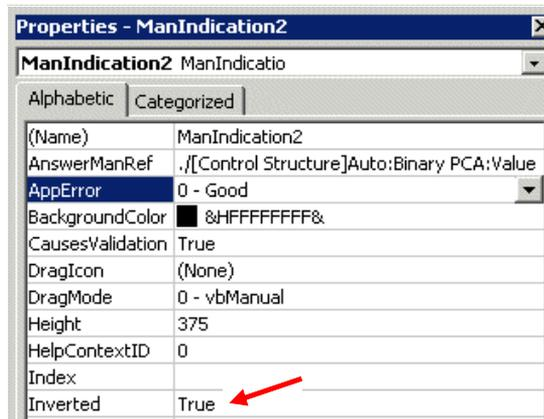

Figure 120. Inverted connection
10. Select the **ManIndication** element. Connect the **AnswerManRef** property. Use the Inverted property if you need to invert the indication. See Figure 120.